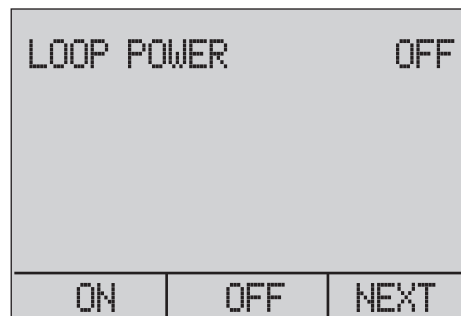

Figure 30. Loop Power Screen
4. "**LOOP POWER**" can be toggled on or off. Select "**NEXT**" when done. See Figure 30.